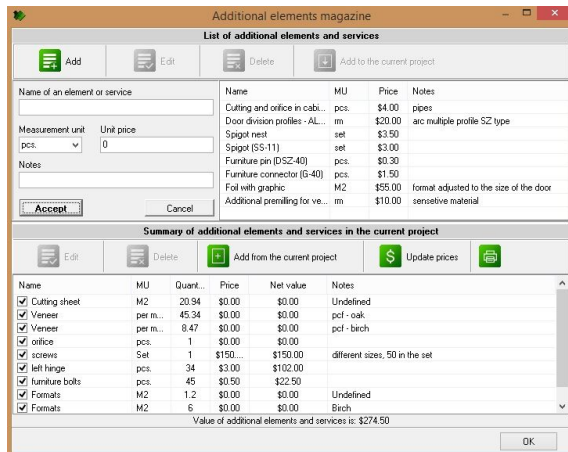

Fig. 46 – additional elements magazine
- 4)  **Additional elements [F11]** - opens the window of the magazine of additional elements (Fig. 46)